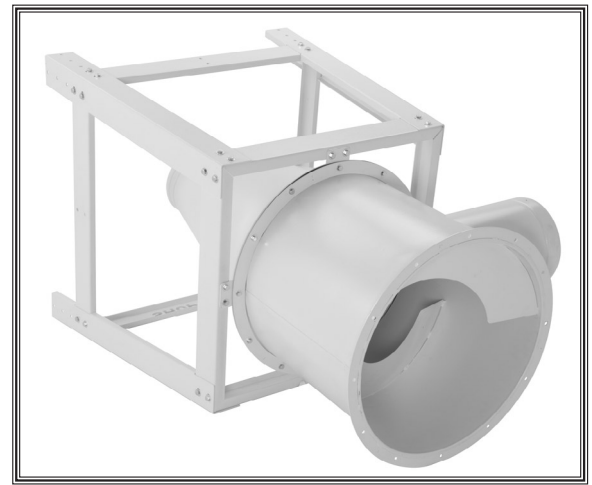

Figure 16. Collector assembly fastened to the stand, Model W1810.
6. Fasten the collector assembly to the stand with (8) $\frac{3}{8}$ "-16 x 1" hex bolts, (16) $\frac{3}{8}$ " flat washers, and (8) $\frac{3}{8}$ "-16 lock nuts, as shown in **Figure 16**.
7. Model W1808-W1809: Slide the lower legs onto the upper stand assembly, and fit the lower braces into the leg notches. Fasten the upper and lower legs and lower braces using (24) $\frac{3}{8}$ "-16 x $\frac{3}{4}$ " hex bolts, (16) $\frac{3}{8}$ "-16 x 1" hex bolts, (80) $\frac{3}{8}$ " flat washers, and (40) $\frac{3}{8}$ "-16 lock nuts. Refer to the W1808 and W1809 Parts Breakdowns on Pages 48 and 51 for more detail.